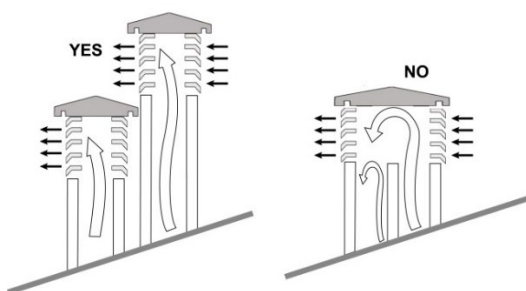

Fig.6
- Whenever using parallel output chimneys, it is advisable to raise a bracing element. (*Fig. 6*)